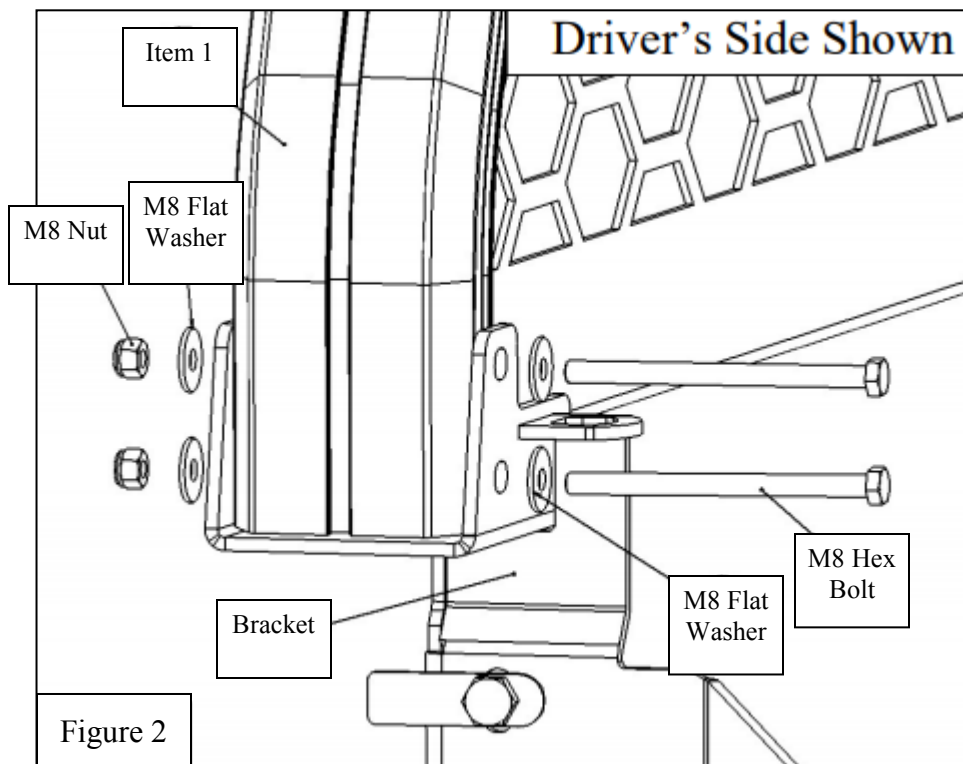

Figure 2
2. Using the supplied M8 Hardware from the bracket kit, fasten the Hoop Assembly to the brackets. See **Figure 2. Note:** *Mount kit and hardware packaged separately.*